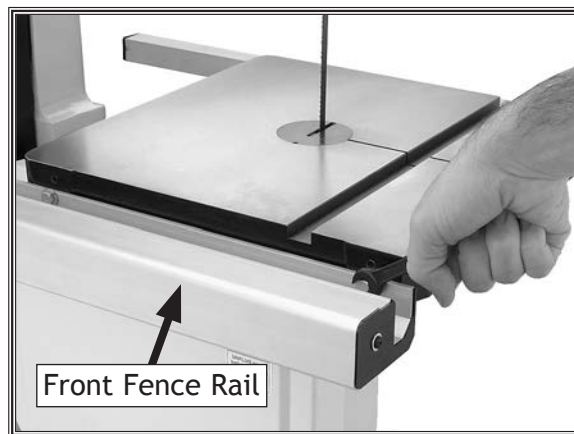

Figure 11. Installing front fence rail.
11. Attach the larger front fence rail shown in **Figure 11**, with (2) 1/4"-20 x 3/4" hex bolts and 1/4" flat washers.